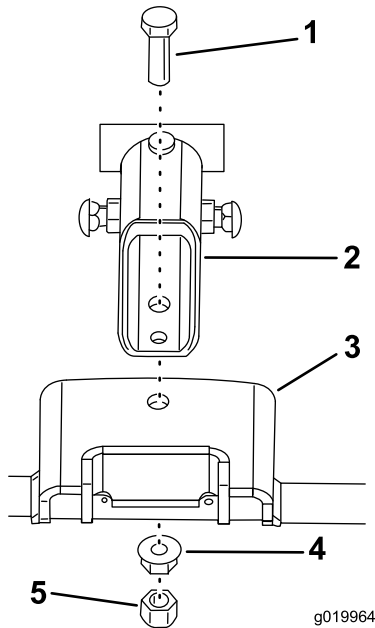

Figure 5
1. Install the pivot bracket assembly to the frame with a screw (1/2 inch) and secure with a flange nut (1/2 inch) (Figure 5).